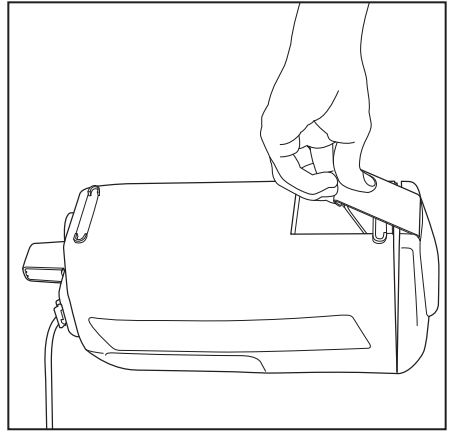

Fig. 15
- Turn the vacuum over. Lift up the cover retaining clip to remove the cover (Fig. 15).